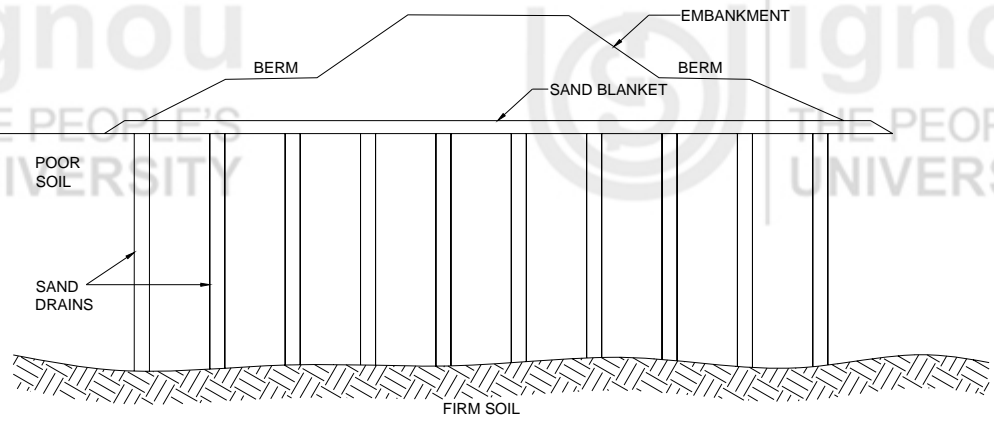

Figure 6.3 : Vertical Sand Drains
- (d) By providing vertical sand drains (0.4-0.6 m dia) which will facilitate the upward movement of water from the underlying saturated soil and drain it away. Figure 6.3 gives a typical layout of sand drains.